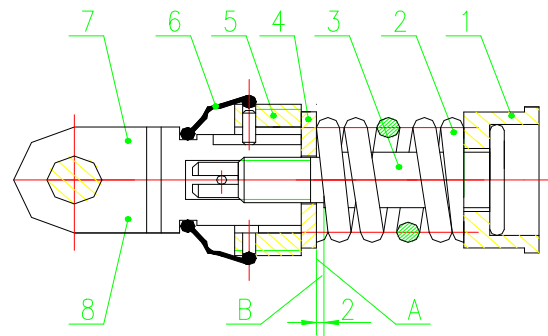

Figure 5-15 Adjustment of Adjusting Spring
5.3.9.1 Adjustment of adjusting spring (Figure 5-15)
Before force adjusting spring is put into the lifter housing, the following adjustment shall be done: relatively turn the upper link connect and spring rod to eliminate the clearance among each parts and components, and to ensure the clearance between spring pressure plate A and spring rod B is 2mm, then insert the pin. Put the force adjusting spring into the lifter housing, screw the nut, make the front end of the force adjusting spring assembly contact the lifter housing E, then insert the pin from the nut hole (Figure 5-15).